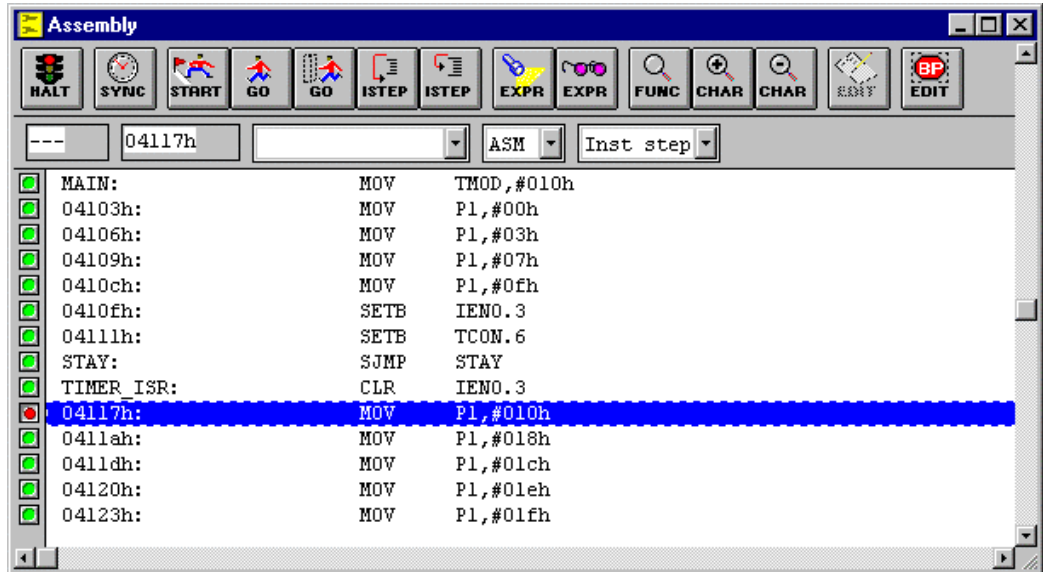

Figure 19 Assembly Source Window
8. Single step a few times and inspect the result on the LED's. Then click on the 'Go' button and watch the breakpoint being hit. You should now see the window of Figure 19.